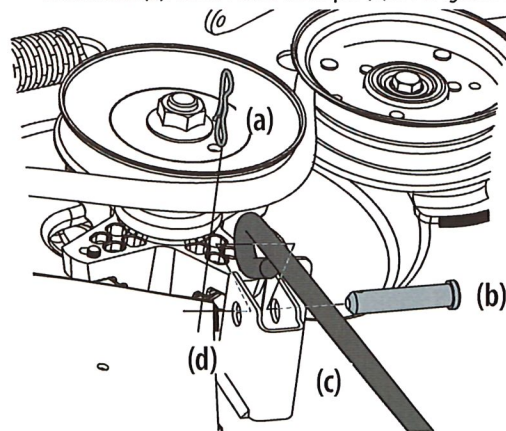

Figure 36
- b. Remove the third bow-tie pin (a) from the clevis pin (b) that secures the front deck control rod (c) to the front deck lift bracket (d). Remove the clevis pin (b). See Figure 36.